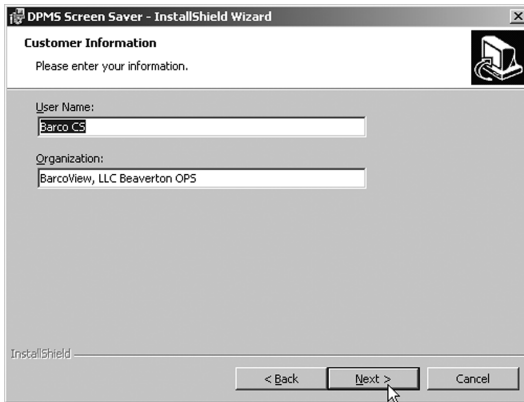

Figure 13
16. The “Customer Information” screen will appear (see figure 13 on the next page). The Installer will automatically fill in the blanks using the information entered when Windows was installed on your system. You may change this information if you wish. Click “**Next**” to continue.